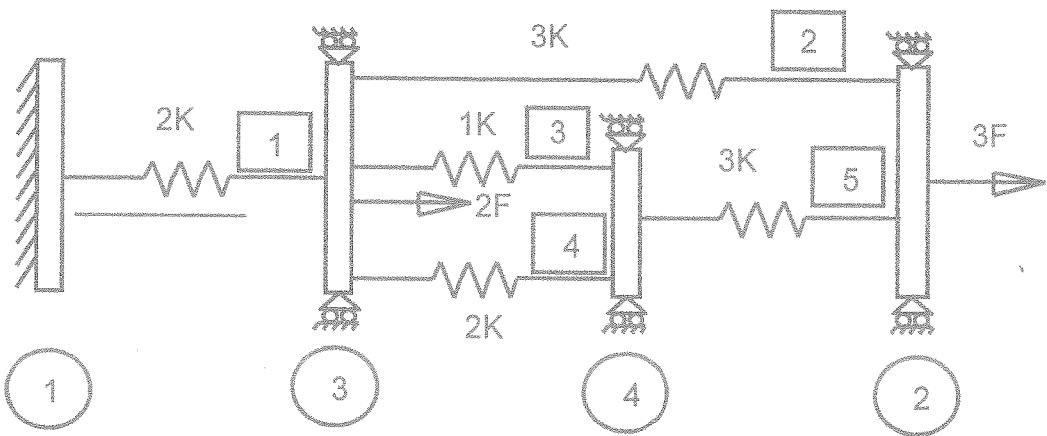

Fig. Q1
- Q1 Fig. Q1 shows a one dimensional spring assembly. Element numbers are boxed and node numbers are circled. Elements 1 and 4 have stiffness of  $2K$ , while elements 3 has stiffness  $1K$ . The rest of the elements has stiffness of  $3K$ .
- Assemble the stiffness matrix of the system of springs following the node numbering given in Fig. Q1 [4 Marks]
- Q5.** A steel frame structure shown in Fig. Q5(a) is subjected to a point load P at the mid span of beam BC. The beam is rigidly fixed to a column at one end and the other end is rested on a roller support. The base of the column is encased to a concrete pier foundation. The second moment of area (I) for the beam and the column are as given in Fig. Q5(a). Fixed end moment for a centrally loaded beam is as indicated in Fig. Q1(b). The flexibility matrix for a beam element with clockwise moment is given by  $f = \frac{L}{6EI} \begin{bmatrix} 2 & -1 \\ -1 & 2 \end{bmatrix}$